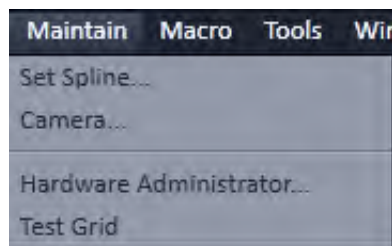

**Fig. 16 File menu**
- This displays the menu shown in Fig. 16.